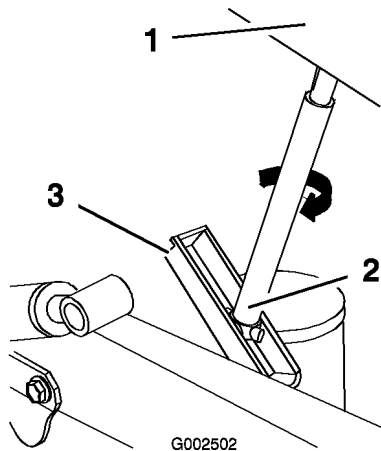

Figure 17
2. Turn the prop rod 90° and guide it through the prop rod support (Figure 17) as the tank skid is slowly lowered.